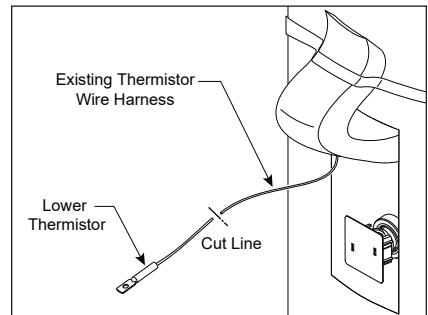

Figure 95 - Cut Existing Thermistor (Lower) Wire
**15** Use wire cutters to cut the thermistor wire as shown in Figure 95. Do not strip the insulation from the end of the wire.